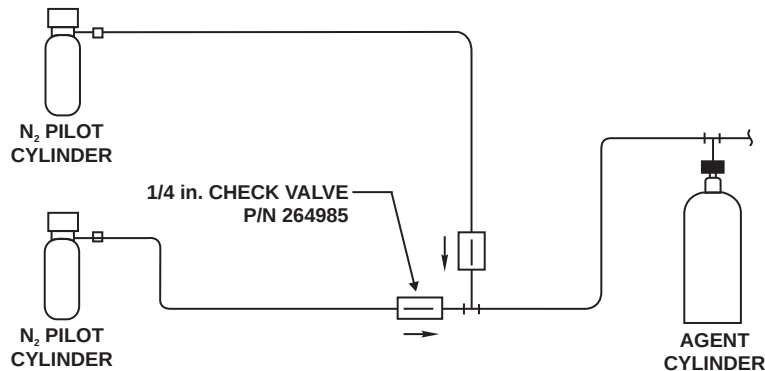

Figure 3-13. Multiple Pilot Nitrogen Actuation Cylinders
- 1/4 in. check valves (P/N WK-264985-000) shall be installed at the intersection of each pilot line to the main actuator line (see Figure 3-13).